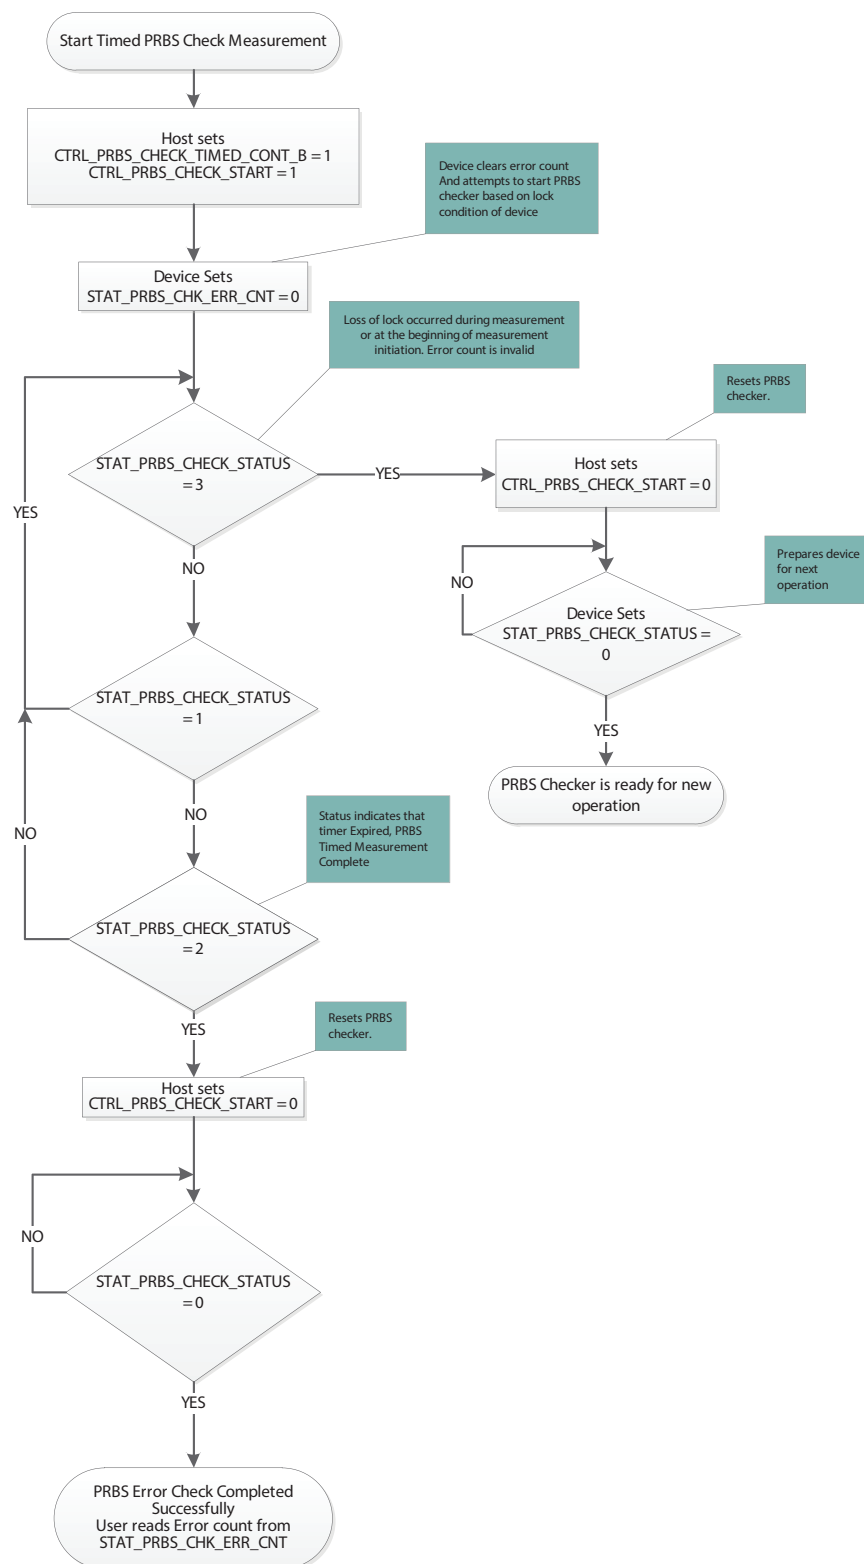

Figure 4-3: Timed PRBS Check Flow
2. Follow the steps outlined in Figure 4-3: Timed PRBS Check Flow.